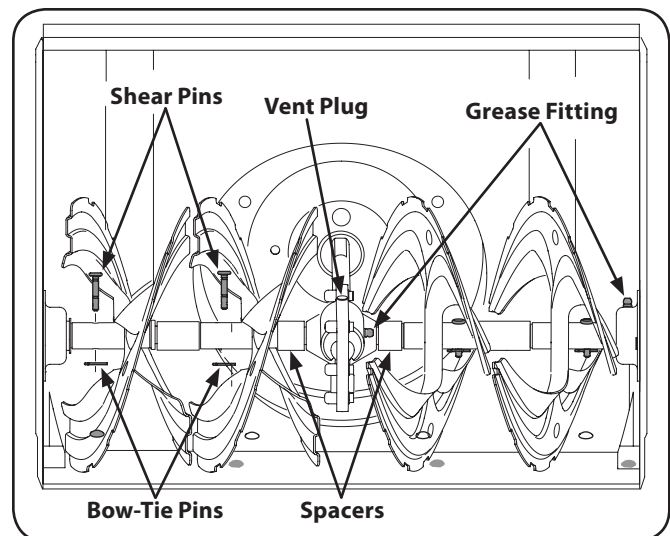

Figure 6-2
Grease fittings can also be found at each end of the auger shaft. Lubricate with a grease gun once a season. See Figure 6-2.
The auger gear case is equipped with a grease fitting. Lubricate with grease once a season (order part number 737-0168). See Figure 6-2.
NOTE: To relieve pressure, remove the vent plug before lubricating the gear case. See Figure 6-2. Failure to do so could result in damage to the gear case seals.
2. Replace the pins if needed. Two replacement shear pins and cotter pins have been provided with the snow thrower. Spray an oil lubricant into shaft before inserting new pins and securing with new cotter pins. See Fig. 6-2.